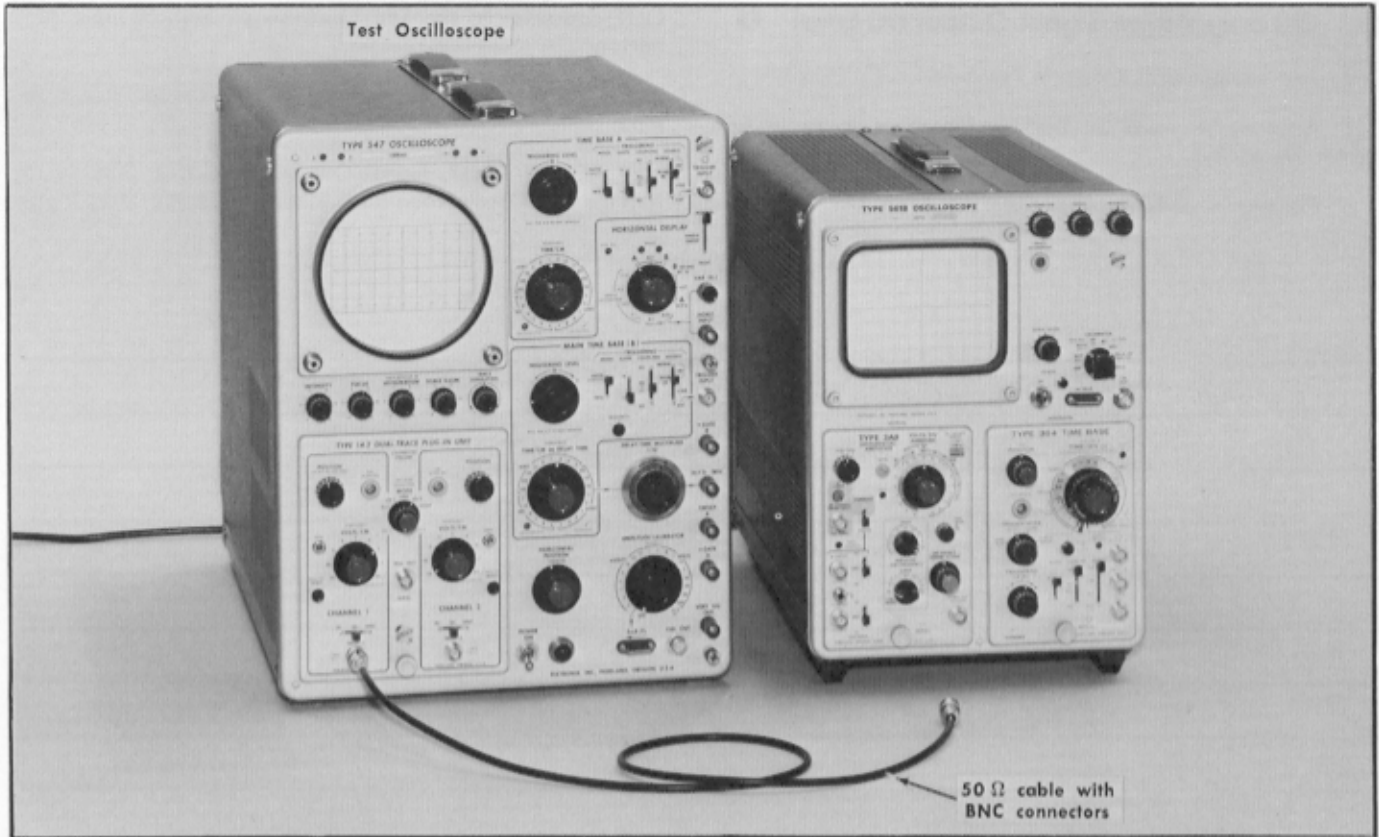

Fig. 5-34. Equipment required for step 28.
**28. Check or Adjust Signal Output DC Level ①**
- a. Test equipment is shown in Fig. 5-34.